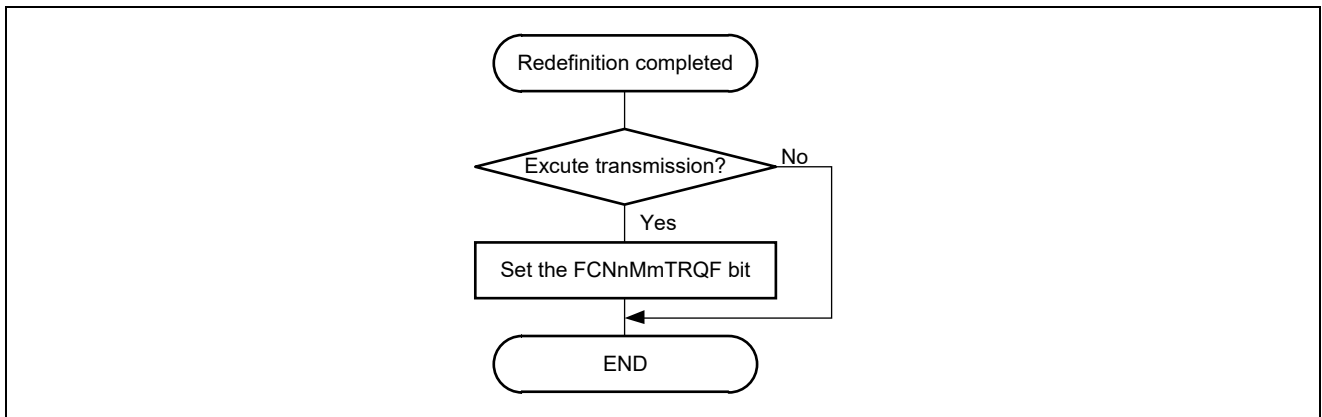

Figure 25.4 Setting Transmission Request (FCNnMmCTL.FCNnMmTRQF) to Transmit Message Buffer after Redefinition
- 2.** When a message is transmitted, the transmission priority is checked in accordance with the ID, IDE, and FCNnMmSTRB.FCNnMmSSRT set for each transmit message buffer to which a transmission request was set. The transmit message buffer having the highest priority is selected for transmission. If the procedure in Figure 25.4, Setting Transmission Request (FCNnMmCTL.FCNnMmTRQF) to Transmit Message Buffer after Redefinition, is not followed, a message with an ID having the highest priority may not be transmitted after redefinition.